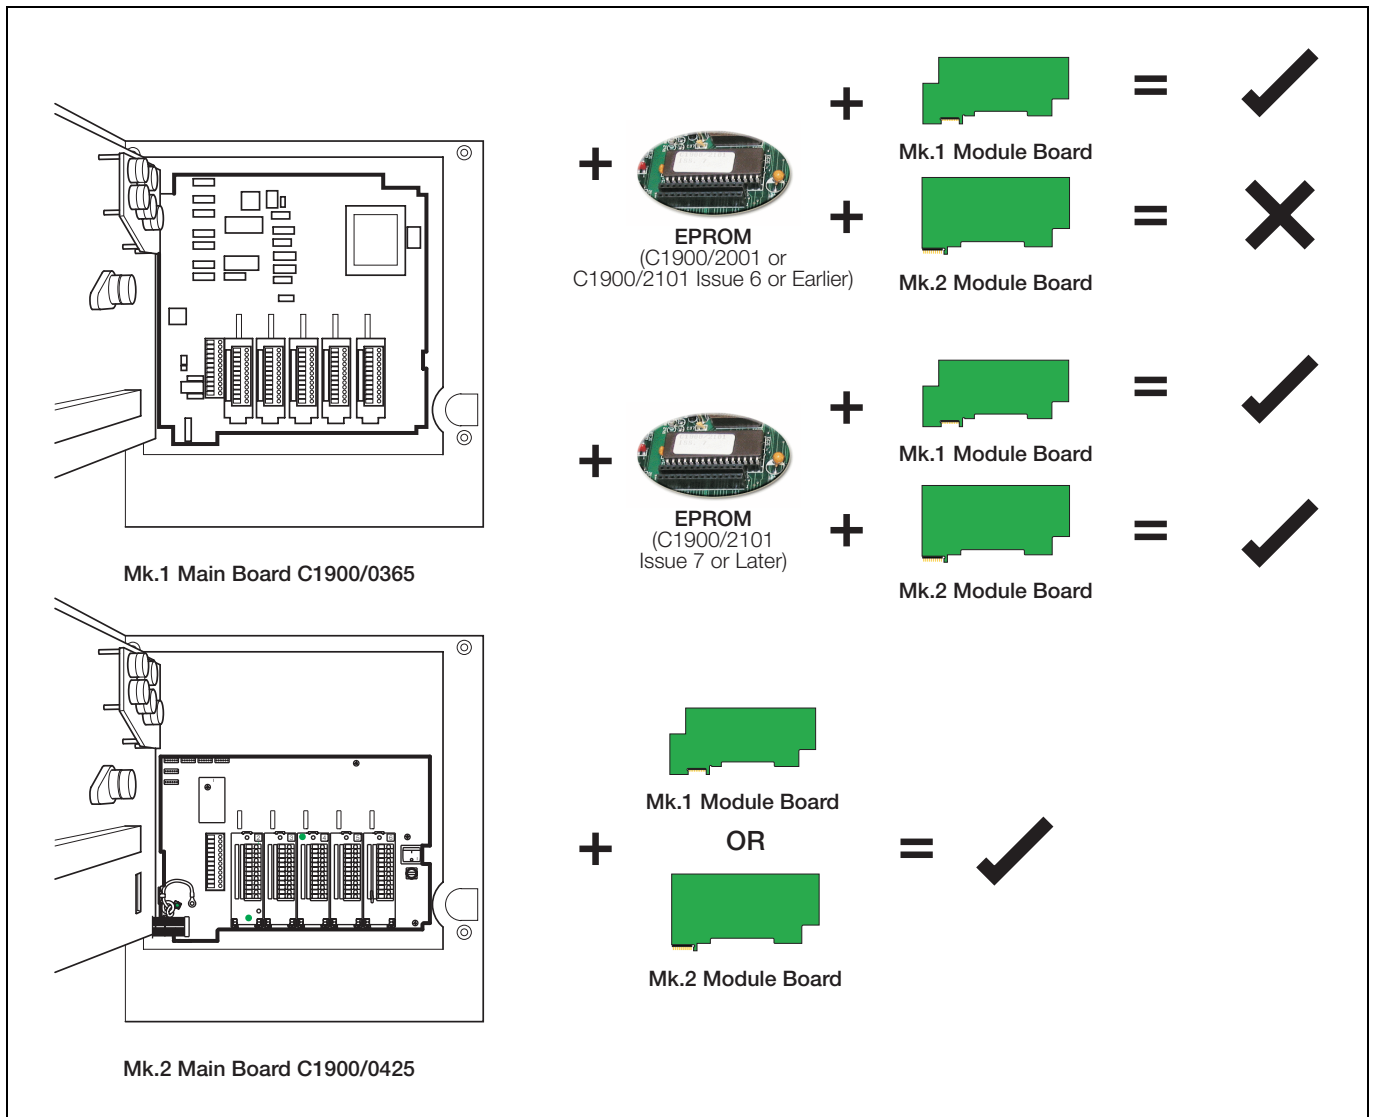

Fig. 3.4 Main and Module Board Identification and Combinations
### 3.3 Fitting Analog I/O and Analog Input + Relay Modules (C1900 Only) – Figs. 3.4 to 3.6
- This section describes the procedure for fitting Mk.2 Analog I/O module boards (C1900/0405) and Mk.2 Analog Input and Relay module boards (C1900/0406) to a C1900 fitted with either a Mk.1 main board (C1900/0365) or a Mk.2 main board (C1900/0425). In order to use a Mk.2 module board with a Mk.1 main board, it may be necessary to replace the EPROM fitted to the main board – see Fig. 3.4 on page 5 to identify valid main board, module board and EPROM combinations.
- Mk.1 and Mk.2 module boards are identified by their different profiles – see Fig. 3.4 on page 5.
5. Identify the main board fitted to the recorder – see Fig. 3.4 on page 5.